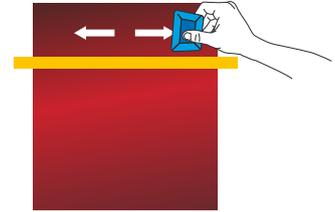

Figure 05
- › Start applying the film with a squeegee (previously covered with felt), by forming a 45° angle with the substrate and working from the centre towards the edges. (FIG. 05)